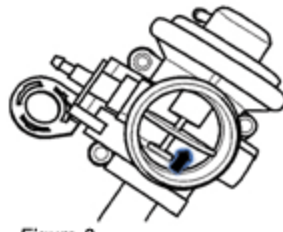

Figure 3
20. Apply vacuum and make sure the air flap (see arrow, Figure 3) opens and closes freely. If the flap does not open and close freely, replace the EGR valve/flap.